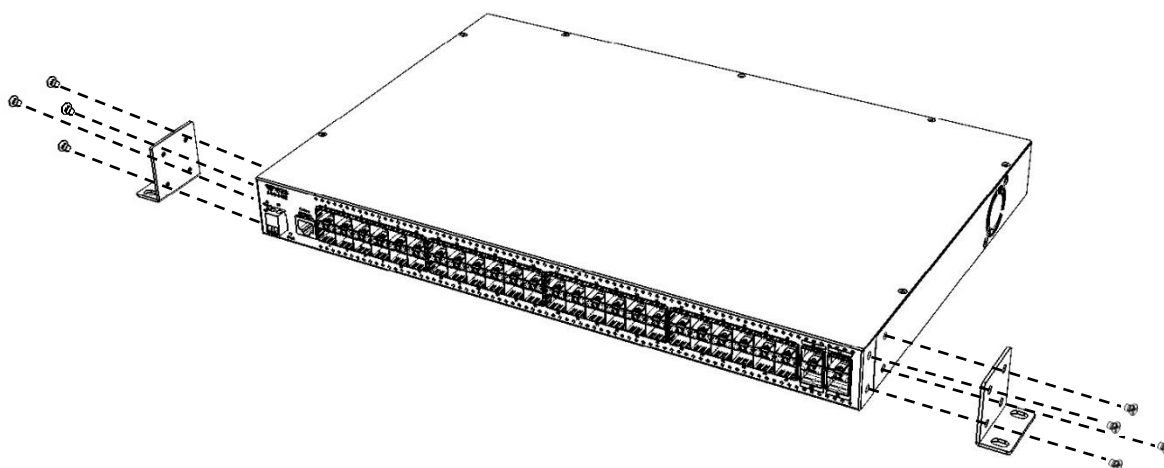

Figure 2-3. The Managed Switch Wall-mounting
Step 2. Attach the supplied rack mounting brackets to the switch in the direction shown on the figure 2-3:
2.1. Refer to the figure 2-3 to attach the supplied rack mounting bracket to one side of the switch that you would like to install on the wall.
2.2. Also refer to the figure 2-3 to attach the supplied rack mounting bracket to the other side of the switch.
Step 3. Insert the M3 x 4mm flat head screws provided in the rack-mount kit through each bracket and into the bracket mounting holes in the switch. (See Figure 2-3)